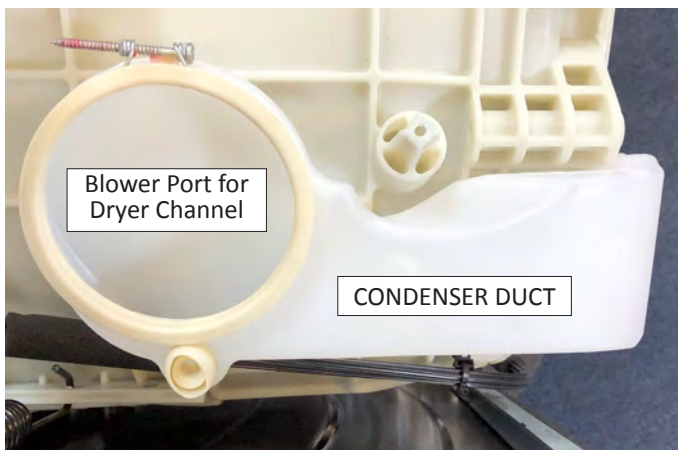

Figure 1
7. At this point, the Condenser Duct Assembly should look like the example in Figure 1 below.